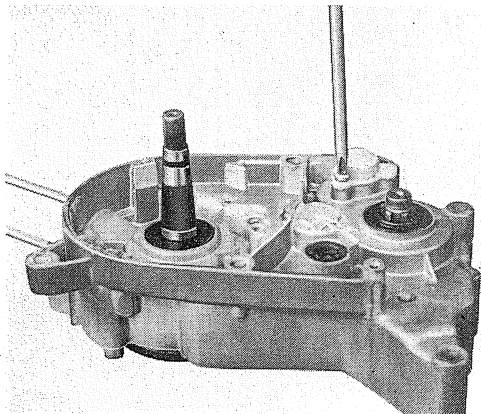

Fig. 3-15-3
- 1) Remove the shift drum seal cover and clip. (Figs. 3-15-3 and 4)